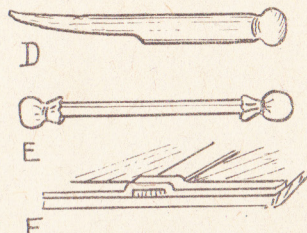

Fig. 2—The home-made tools
In most designs, the lead strips, perforce, pass over each other, and they should be well pressed down to contact closely, as in detail (F) in Fig. 2. The sharp edges of the peg will be most useful here to mould the top lead over the one beneath. As the work progresses, a sharp eye should be kept to see if any parts of the lead strip rises from the glass, and such parts be pressed well and firmly down again.